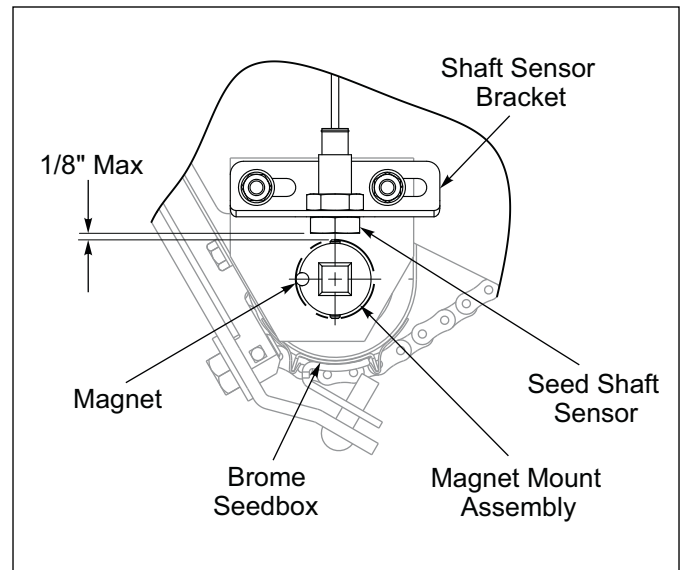

Figure 2-27: Brome Box RH Seed Shaft Sensor
12. Slide/Position Seed Shaft Sensor so it is 1/8" from the magnet. **See Figure 2-27.** Tighten both Retaining Nuts.